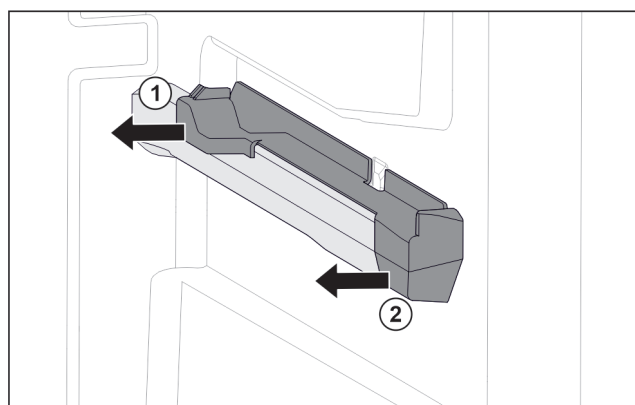

Fig. 30 Attachment on the right moulded rib
- Pull off attachment at the back sideways. Fig. 30 (1)
- Pull off attachment at the front sideways. Fig. 30 (2)